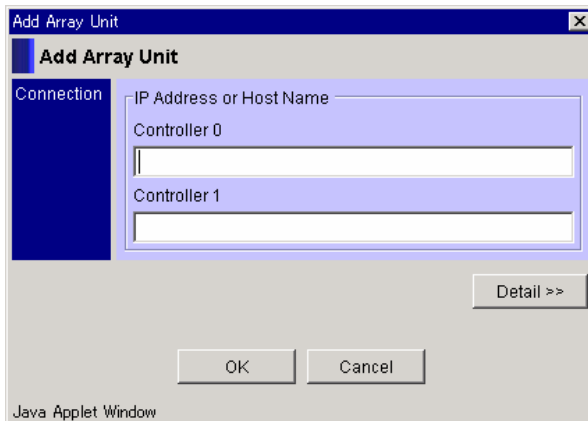

Figure 4.11 Add Array Unit
2. The TCP/IP simple connection dialog displays. Input the IP address of controller 0 and/or controller 1, and click **OK** or **Detail**. See Figure 4.11.